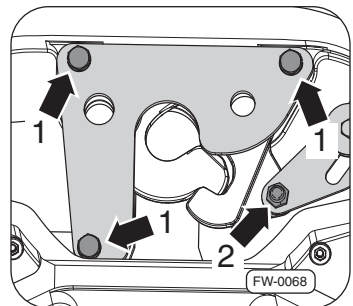

Fig. 33 · Removing the cover
6. Loosen the bolts ⇒ Fig. 33, -item 1- and nuts -item 2- and dispose of them. Remove the cover from the lock.